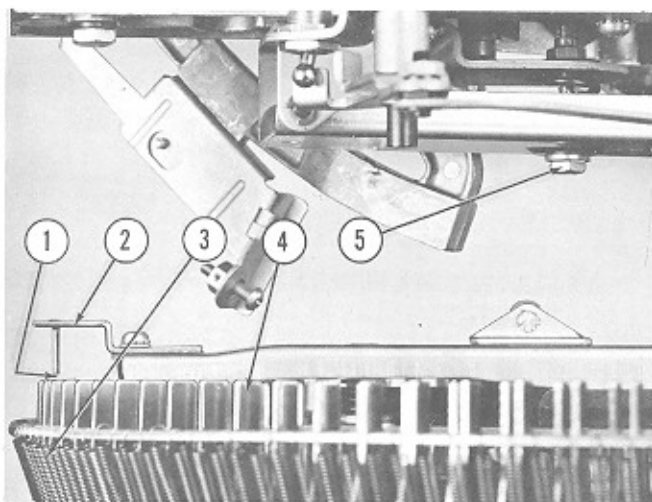
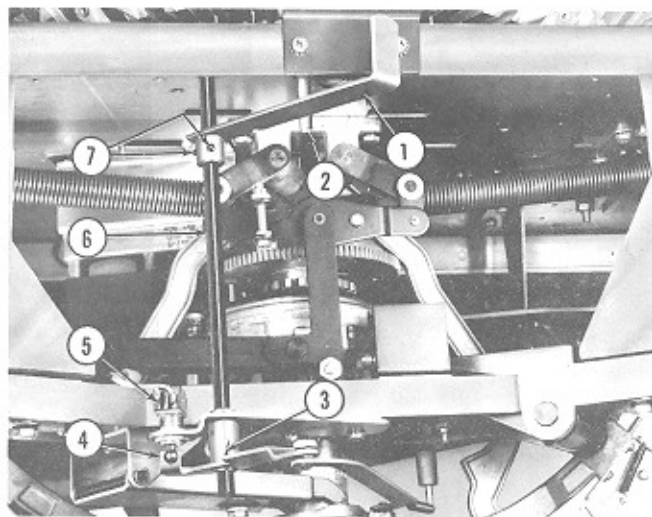

FIG. 29. SELECTOR CRANK ARM CLEARANCE ADJUSTMENT
FIG. 30. RECORD LOADING LEVER ADJUSTMENT
The tips of the Selector Crank Arms should clear the selector pins, when in their normal latched position by 1/16" to 1/8" as shown in Fig. 29,
Item 1. Set the Record Loading Lever (Fig. 30, Item 1) in "LOAD" position and release eight selector pins spaced evenly around the assembly. The tips of the Selector Crank Arms should clear the released pins. Should adjustment be required turning the adjusting screw (Fig. 29, Item 5) will raise or lower the arms. The Model 2810 has this adjusting screw in the same location, but it is adjusted from the top side.
(1) The Record Loading Lever (Fig. 30, Item 1) mounted at the front center of the chassis mounting plate is used to disconnect the changer motor circuit and to raise the selector crank arms to a position where they will clear any released selector pin, thereby permitting servicing of the phonograph without cancelling selections which may have been made. Should it be necessary to service the phonograph while a record is in play position, the Record Loading Lever should be moved to the LOAD position, the record playing allowed to trip and return to the record carrier before attempting to turn the record carrier.
(2) The Release Lever (Fig. 30, Item 1), held to the Shaft (Item 6) by the Set Screws (Item 7), should be positioned so that the Toggle Switch (Fig. 30, Item 5) will be actuated in either direction by the Tabs (Fig. 30, Items 3 and 4) on the Actuator Arm and Hub Assembly with minimum clearance between the switch lever and actuator tabs.